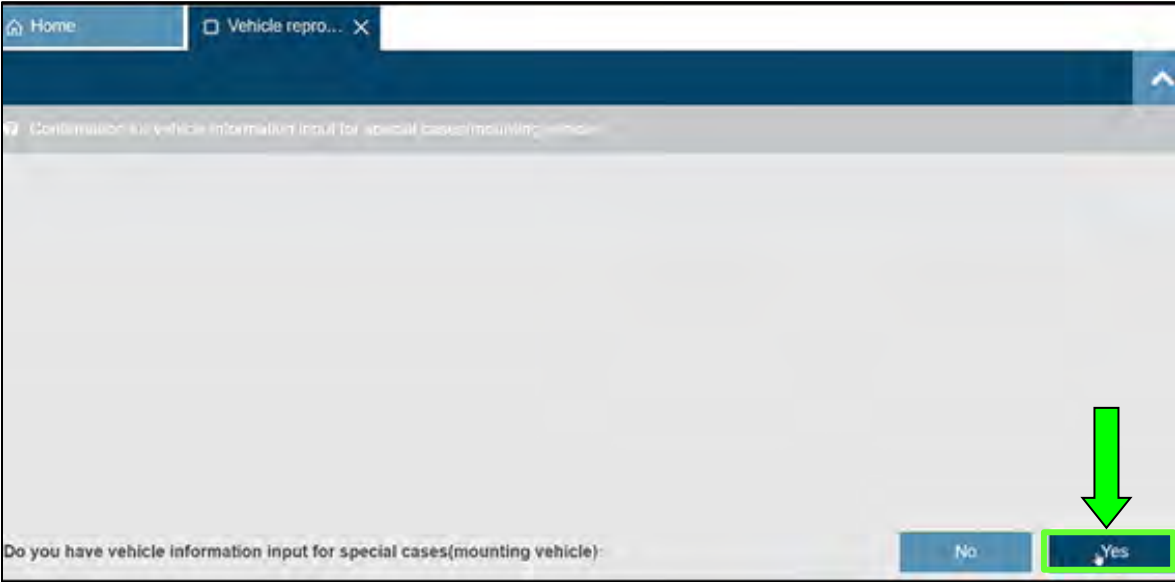

Figure 13
15. When the screen shown in Figure 13 is displayed, select **Yes**.